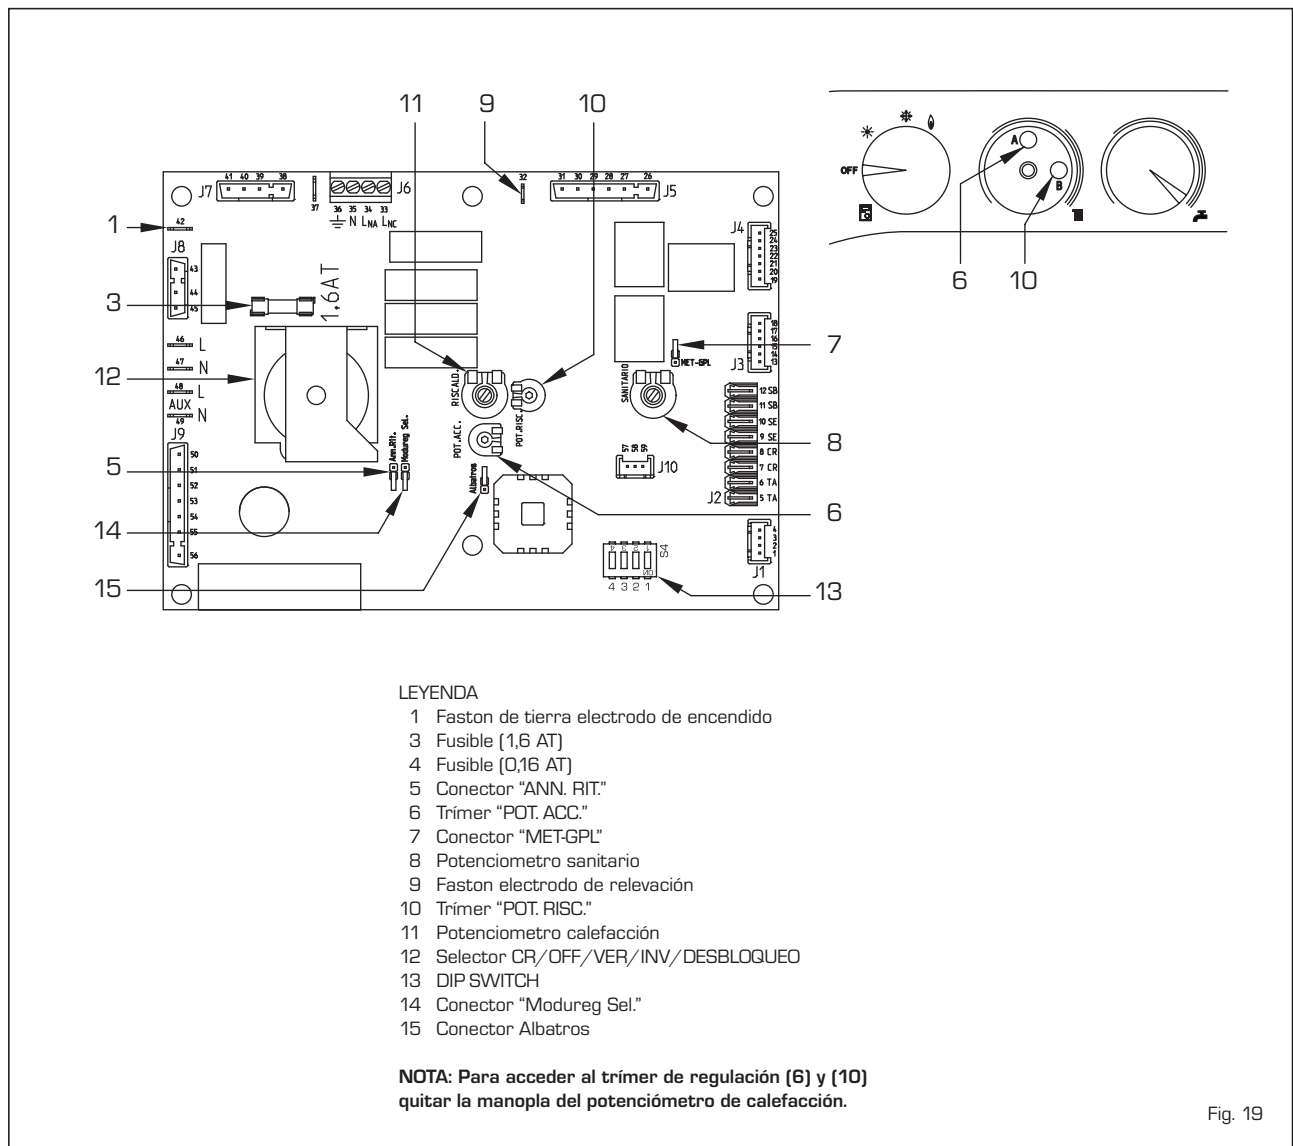

Fig. 19
- Trimer "POT. RISC." (10 fig. 19)
- Trimer "POT. ACC." (6 fig. 19)
- Conector "MET-GPL" (7 fig. 19)
- Conector "ANN. RIT." (5 fig. 19)
- DIP SWITCH (13 fig. 19)
- Conector Modureg Sel. (14 fig. 19)
- Conector "Albatros" (15 fig. 19)